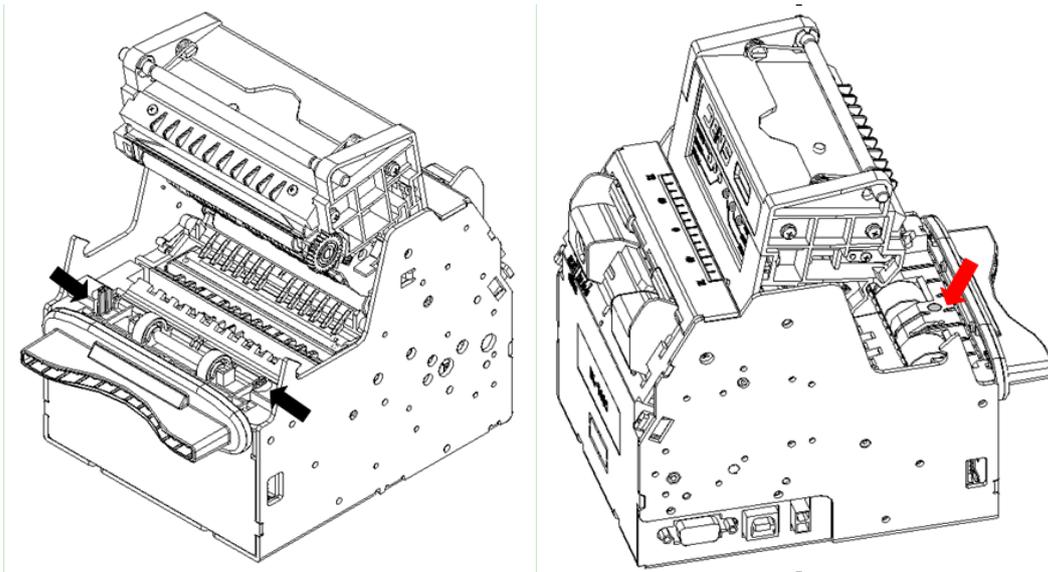

Figure 5.3-1 Cleaning paper out sensor
- 3) Slightly press the latch on Presenter upper path in the direction shown in the figure 5.3-1, remove the Presenter upper path module, then the dustproof cover of paper out sensor located on Presenter path can be seen. Wipe off dust and stains on the surface of the dustproof cover with soft cotton cloth dipped with pure alcohol (it should be wrung out);
- 1) Refer to step 3 in "5.3 Cleaning paper out sensor", slightly press down the latch on Presenter upper path in the direction shown in figure 5.3-1, and then remove Presenter upper path module;